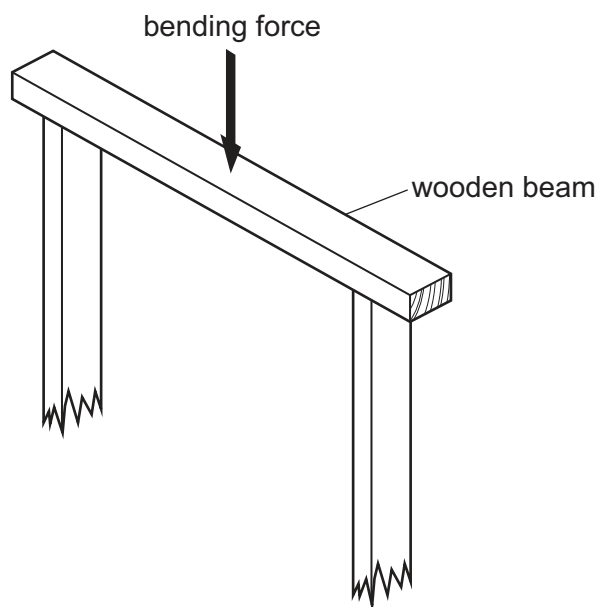

Figure 3.1
- 3 Figure 3.1 shows a rectangular section wooden beam supported in two places. Use sketches and notes to show **two** methods of reducing the effect of the bending force on the wooden beam.